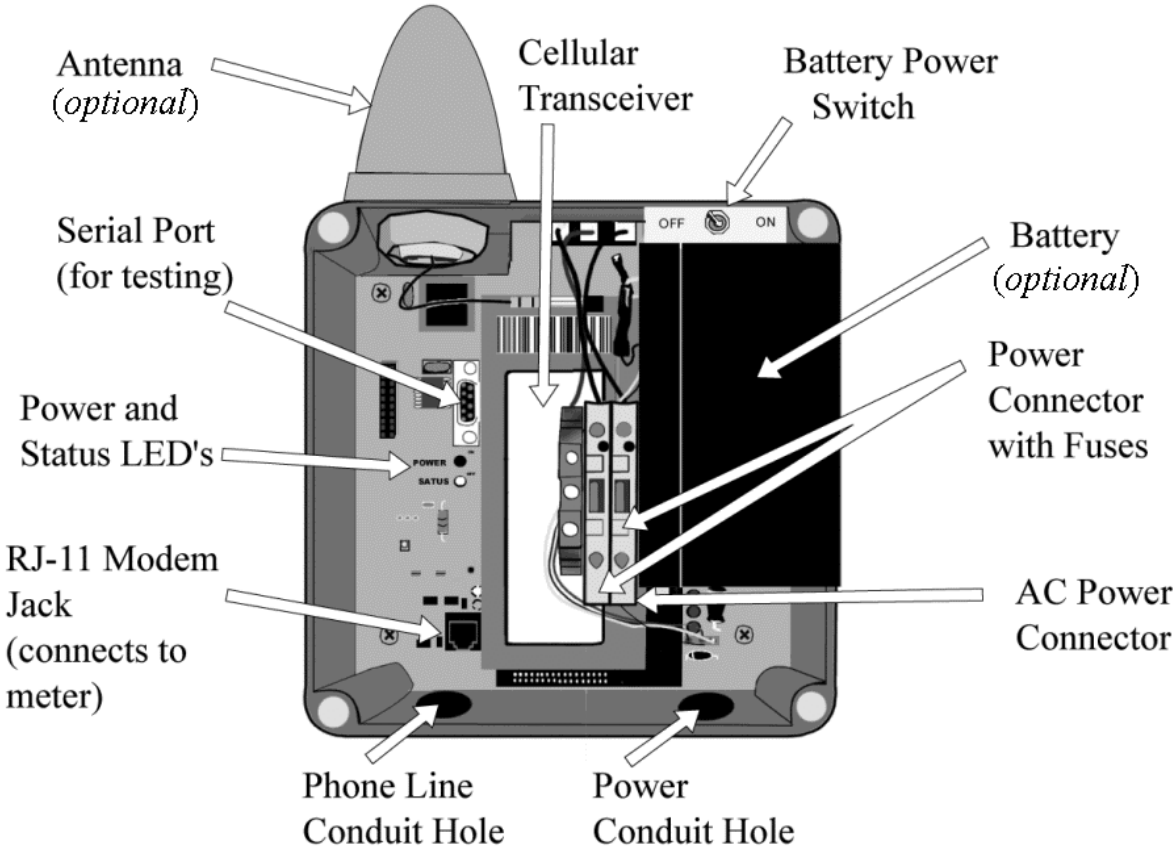

Figure 1-1. OMEGA
Figure 1-1 shows the hardware features of OMEGA. The Battery and Battery Power Switch are options that can be ordered from Telenetics.
- 1.** Lift the AC fuse connector to turn off AC power to OMEGA (see Figure 1-1 on page 13). Do not close this AC fuse connector when connecting the input voltage source.
2. If the OMEGA 8-Port Line-Sharing Module is not installed, connect the cable to the single RJ-11 jack located near the conduit hole (see Figure 1-1 on page 13). Otherwise, refer to the *OMEGA 8-Port Line-Sharing Module Quick Start Guide* (Telenetics part number 0049-0706-001).
1. Before applying power to OMEGA set the Power Battery switch to the OFF position and lift the AC fuse connector (see Figure 1-1 on page 13).
4. Close the AC fuse connector and move the Battery Power switch to the ON position (see Figure 1-1 on page 13).
2. Connect a standard telephone to the OMEGA RJ-11 modem jack. This jack is located on the side opposite the cellular transceiver connector (see Figure 1-1 on page 13).